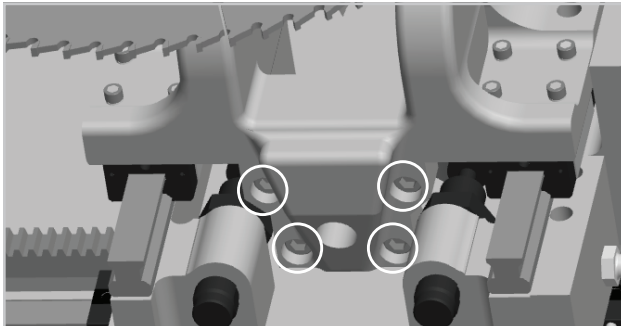

Figure 174
Step 2 – Start removing the actuator by releasing the rod end that is attached to the Z-axis slide. Remove the four socket head cap screws from the bottom of the casting using an 8mm Allen wrench as shown in the Figure 174.